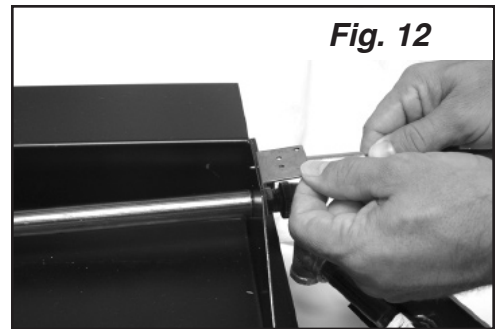

Fig. 12
5. Attach the pilot bracket to the burner pan using the one (1) sheet metal screw. (See Fig. 12)